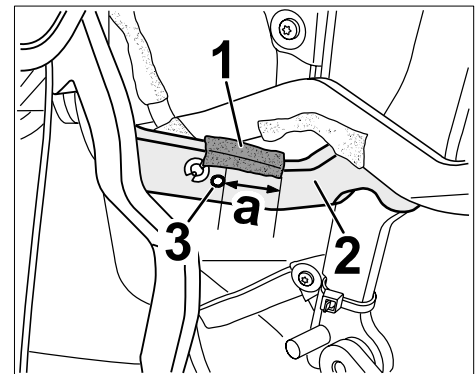

Figure 3
- 2.3 **Adhere tricort tape** $\Rightarrow$ Figure 3 **-Pos. 1-** as shown in $\Rightarrow$ Figure 3 - to the upper edge of the convertible top bow $\Rightarrow$ Figure 3 **-Pos. 2-**. To do this, clean the bonding area on the convertible top bow (the area must be free of grease) and **position the tricort tape in such a way** that it starts above the fastening hole for the tension rope guide eyelet $\Rightarrow$ Figure 3 **-Pos. 3-** and covers the convertible top bow **approx. 2 cm** away from the hole towards the exterior of the vehicle $\Rightarrow$ Figure 3 **-Distance a-**.